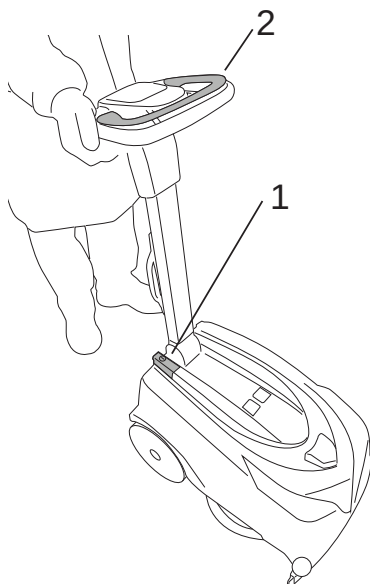
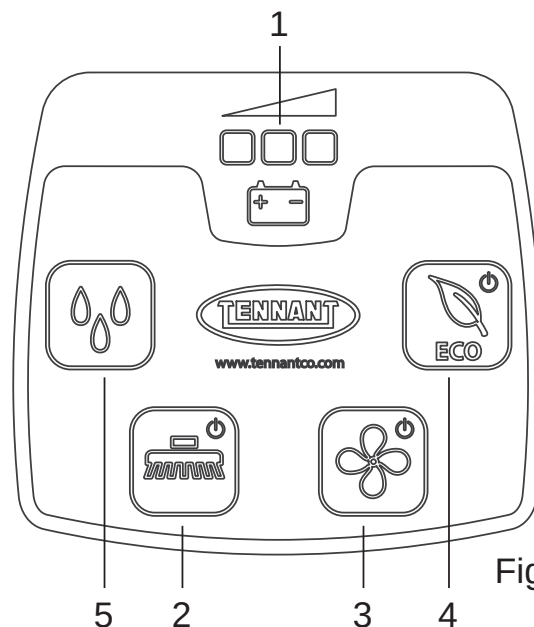

Fig.14
Fig.15
- Main switch (fig. 14, ref. 1): connects and disconnects electrical power to and from all functions of the machine.
- Battery charge indicator (fig. 15, ref. 1): consists of 3 Leds, red, yellow and green, showing the battery charge level. Possible charge level indications:
- Brush control button (fig. 15, ref. 2): enables (Led alight) and disables (Led dark) operation of the "Brush" function; the brush does not start rotating until the "Brush control lever"(fig. 14, ref. 2) is operated.
- Suction control button (fig. 15, ref. 3): switches on ("Led alight") and switches off ("Led dark") the suction motor, which generates the vacuum needed to dry the floor after scrubbing. The motor comes into operation only when activated by way of the "Brush control lever".
- Detergent flow button (Fig.15-Ref.5): to enable, disable or change the flow of detergent solution, proceed as follows:
- ECO button (fig.15, ref. 4): enables (Led alight) and disables (Led dark) ECO operating mode.